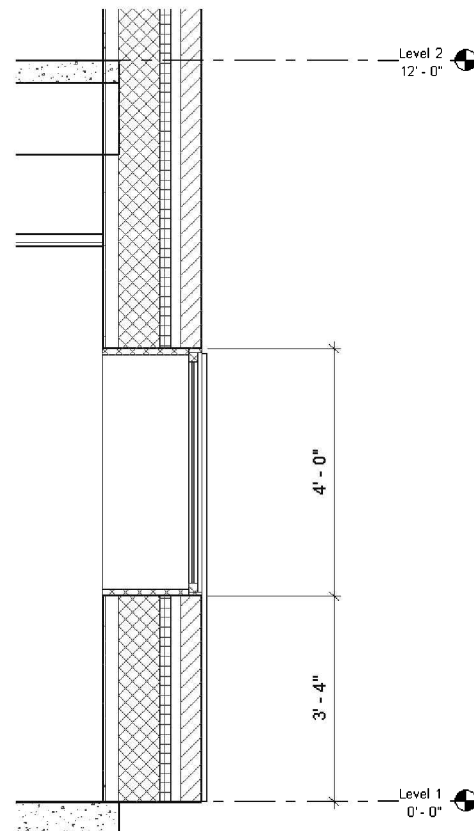

FIGURE 10-4.1 Added dimensions
4. Add two dimensions and adjust the Level datum symbol location as shown in **Figure 10-4.1**.